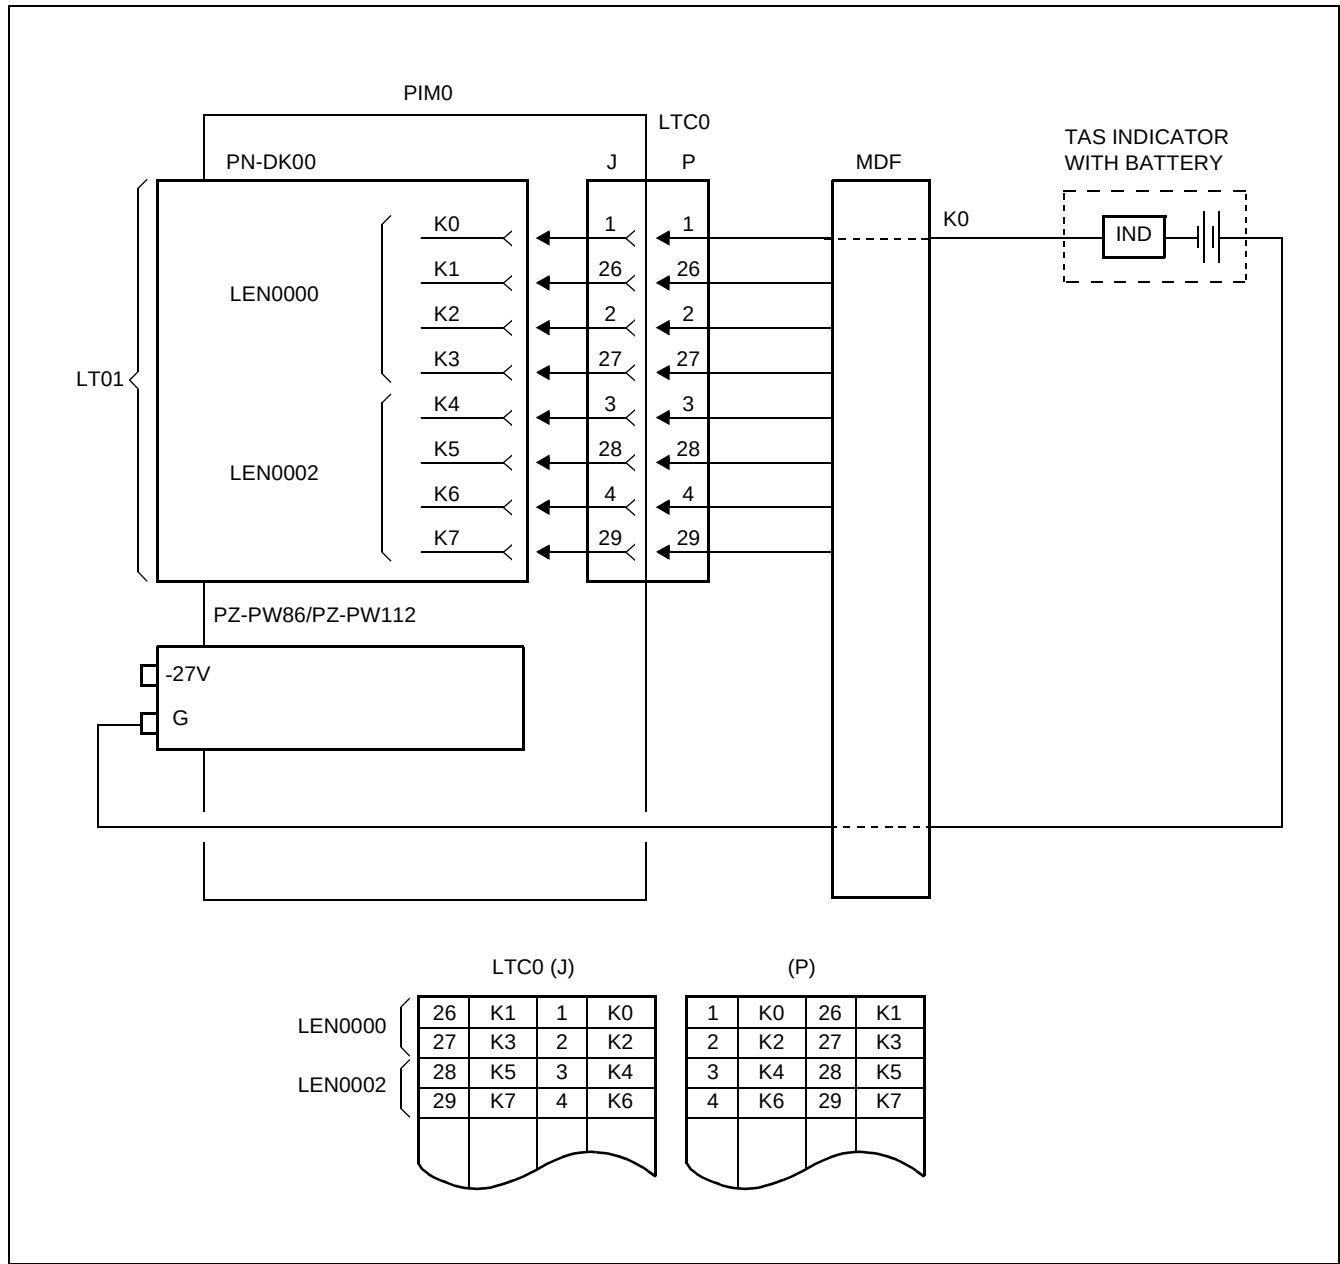

Figure 007-21 MDF Cross Connection for TAS Indicator with Battery
- When using a TAS Indicator with a Battery (see Figure 007-21)